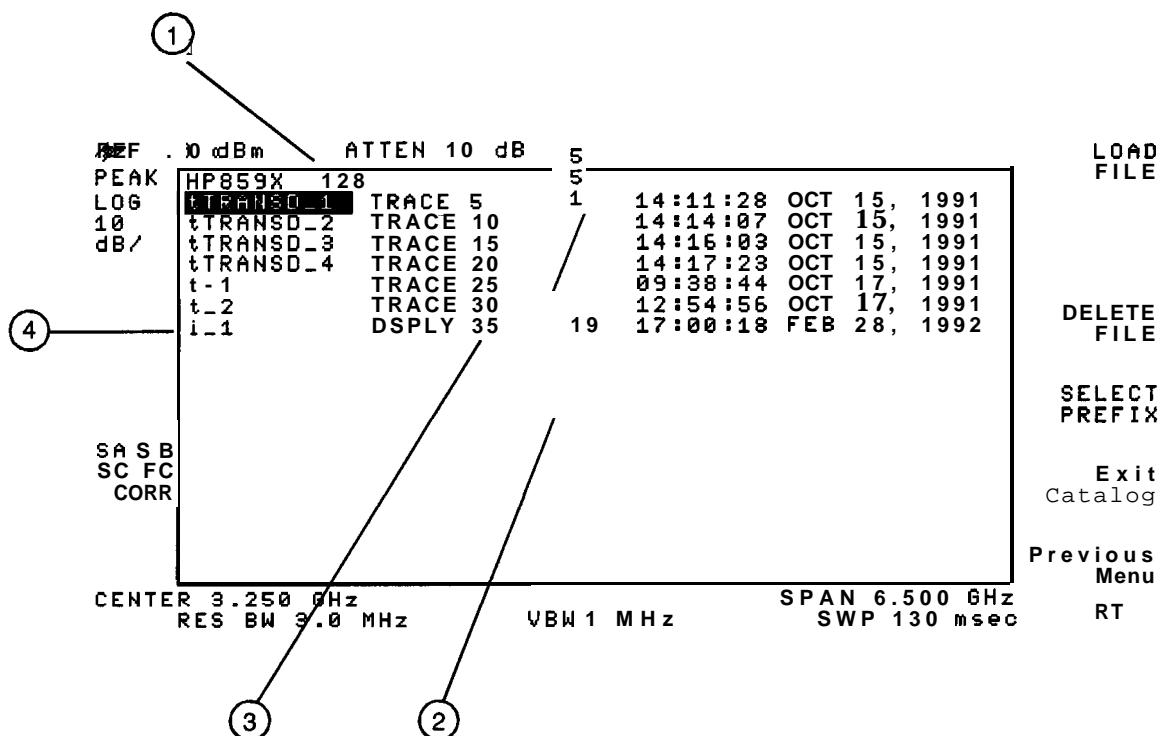

Figure 4-1. Determining the Number of Records
2. Determine the total number of records for the RAM card. The total number of records on the RAM card is displayed when cataloging the card (see Figure 4-1). The number of records on the RAM card is determined by dividing the memory capacity of the RAM card by 256 (because the records are 256 bytes long). For example, if the RAM card has a capacity of 32K bytes (which is equal to 32×1024), the total number of records on the RAM card is 128 (32,768 divided by 256).
Figure 4-1 shows that the number of records on the RAM card that are in use is 53 ($35 + 19 - 1 = 53$), and the total number of records available are 128. The number of unused records on the RAM card is 75 ($128 - 53 = 75$).